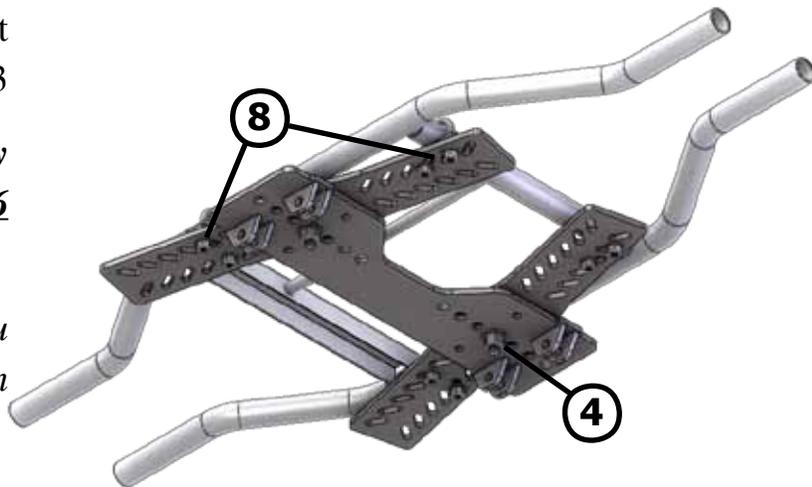

Figure 5
8. Tighten all hardware down evenly. Shown in Figure 5.